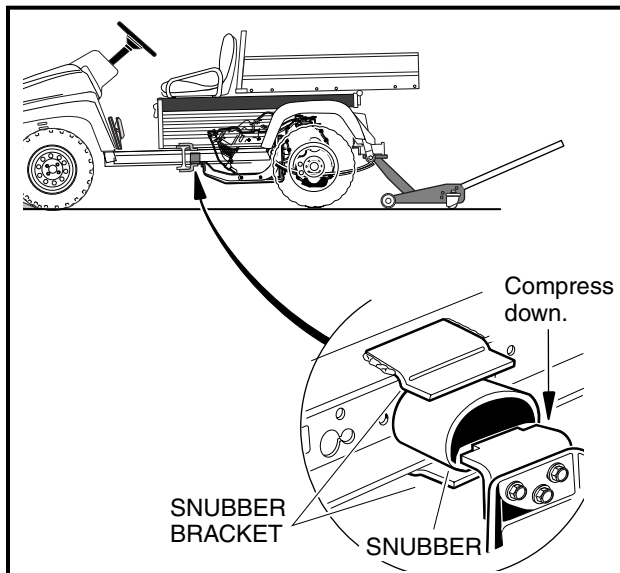

Figure 22 Compress Snubber Downward
- Place a floor jack under the rear receiver hitch where the hitch and body frame are fastened. Lift the vehicle body slightly, allowing the front of the engine to tilt slightly downward. This will allow the oil filter more clearance under the electrical component box (Figure 22).
- Relocate the oil drain pan to a position under the engine oil filter (Figure 22).